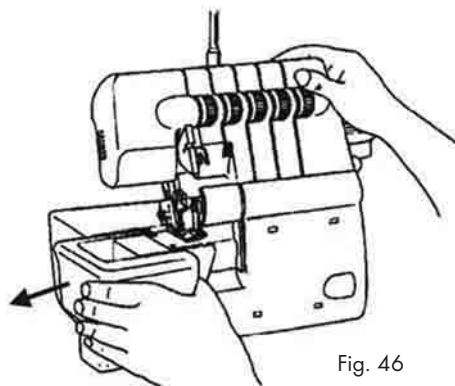

Fig. 46
- Slide the free arm cover to the left and pull it off (Fig. 46)..